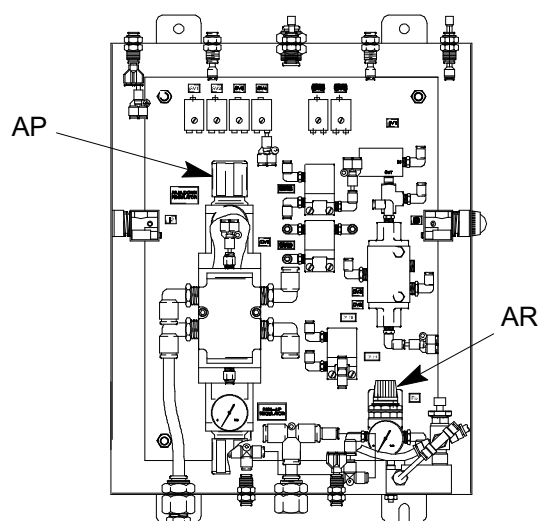

FIG. 12
2. Fully lower the ram by setting the RAM POSITION Switch (AJ) to LOWER. Leave the switch in the LOWER position.
3. Open the door on the Pneumatic Logic Panel (G).
4. Adjust the air pressure to 0 PSI for the RAM DOWN Air Regulator (AP). Refer to the gauge on the RAM DOWN Air Regulator (AP) and R3 Regulator (AR) to verify the ram has been depressurized. See FIG. 12.
5. Slowly open the drain cock located on the bottom of the air cylinders (CL).
6. After the air pressure has been relieved, remove the Ram Down air line running from the top of the Pneumatic Logic Panel (G) to the ram cross bar (CB).
9. After service is complete, close drain cocks and make all pneumatic connections and open the Main Air Inlet Valve (E) to header. Perform the **Adjusting the RAM UP and RAM DOWN Air Regulators** procedure, page 23.